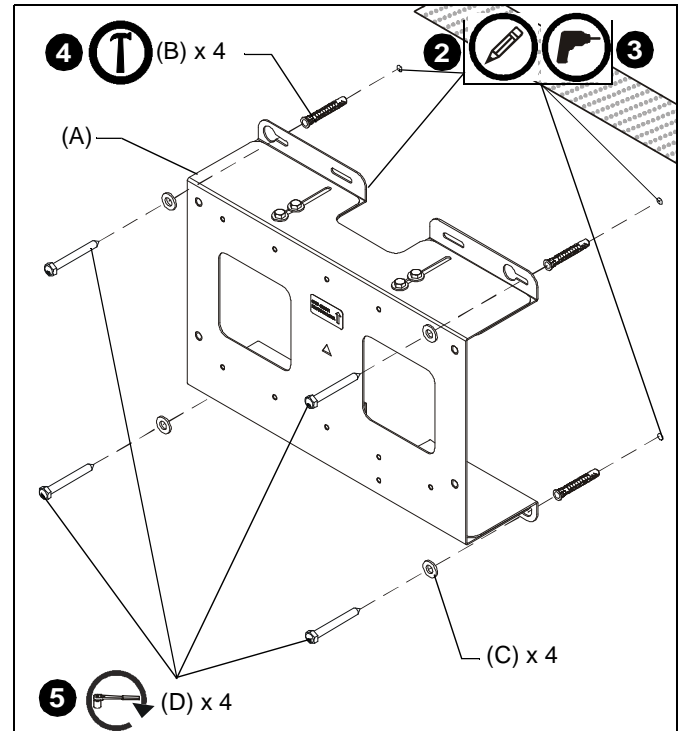

Figure 1
2. Using a level, mark the wall above existing whiteboard through four mounting slots in the WBAP2 bracket (A). (See Figure 1)
3. Drill one 3/8" x 3-1/2" pilot hole at each marking. (See Figure 1)
4. Install an anchor (B) into each pilot hole using a hammer.
5. Use four 5/16 x 2-3/4" lag bolts (D) and four spacers (C) to attach WBAP2 bracket (A) to anchors in wall. (See Figure 1)